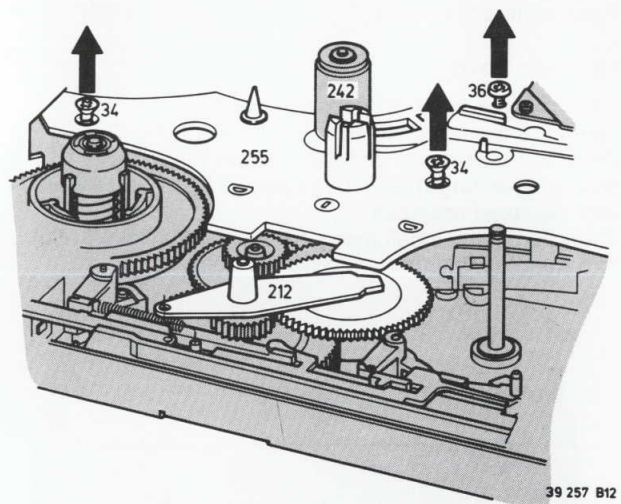

Fig. 3-1-12
- Undo the front three fixing screws (top plate) about 5 mm. (Fig. 3-1-12).